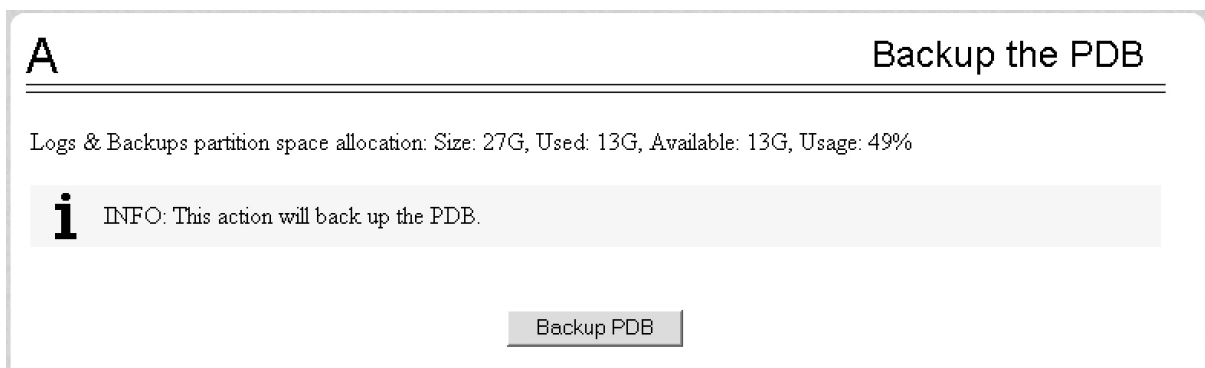

Figure 11: Backup the PDB
4. In the **Backup the PDB** screen shown in Figure 11: Backup the PDB, click **Backup PDB**.